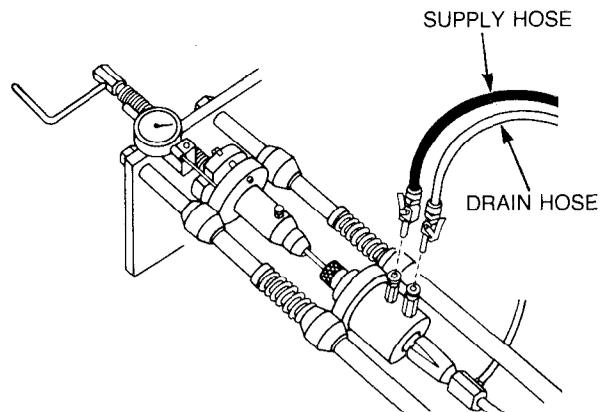

Figure 113 — Supply and Drain Hoses
- g. If the leakage is less than 8.4 units, switch the air supply and the check ball leakage switches OFF, then turn the hand crank counter-clockwise two turns and disconnect the supply and drain hoses (see Fig. 113).